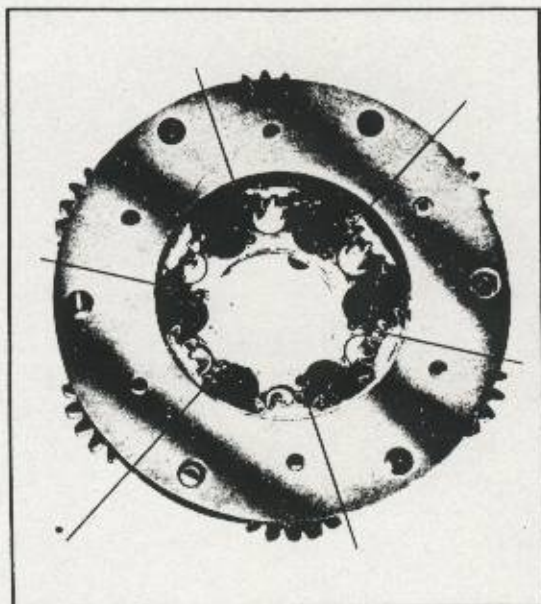

FIG. 21 - PLANET HUB REDUCTION GEAR - SLUGS LOCKING SCREWS
NOTE:- The 'Unbrako' screws securing the planet gear are locked by means of small copper slugs driven down holes parallel and adjacent to the screw heads. Should any difficulty be experienced in removing the screws, drill the slugs with a slightly smaller twist drill approximately $\frac{3}{16}$ inch deep. The slugs will then collapse on turning the screw head, see Fig. 21.
- (g) Ensure that the 'Unbrako' screws securing the planet carrier are extra tight. Insert a slug down each of the small holes beside the screw heads and spread each slug with a centre punch to lock the screws, Fig. 21.
(j) The spacer which fits over the splined end of the tracta fork must now be fitted in accordance with Fig. 21. These spacers are available in the following sizes:-